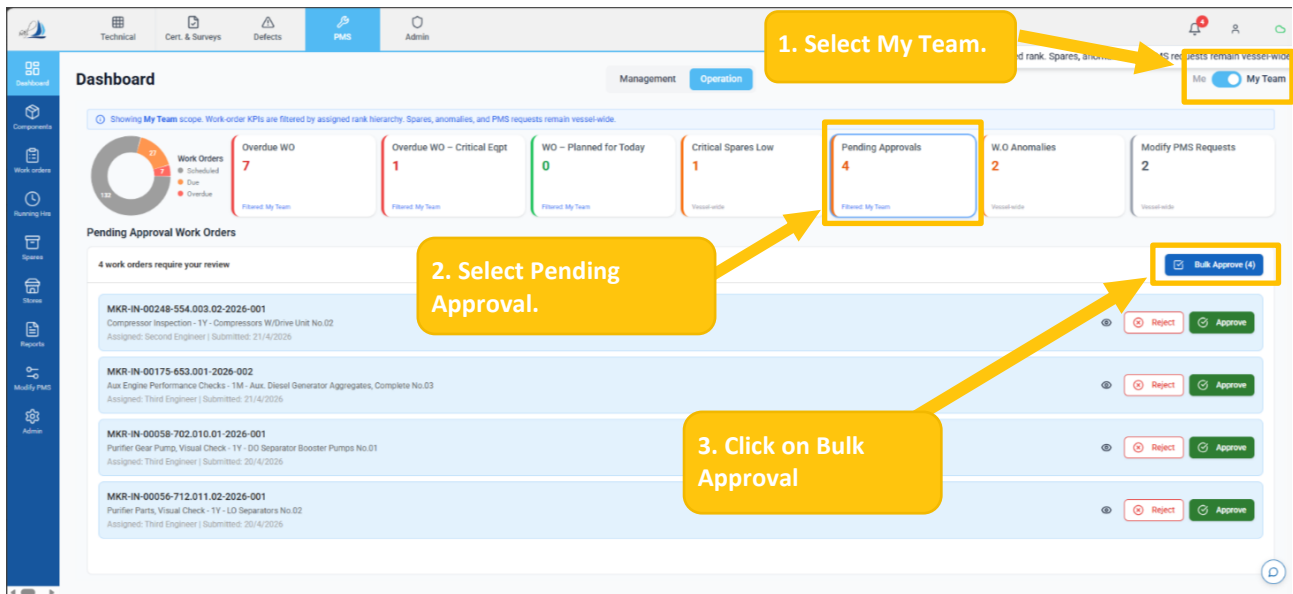

Figure 11
- Select My Team using the toggle button. (Ref. Figure 11)
- Click the Pending Approval card. (Ref. Figure 11)
- Click Bulk Approve to approve multiple work orders at once. (Ref. Figure 11)